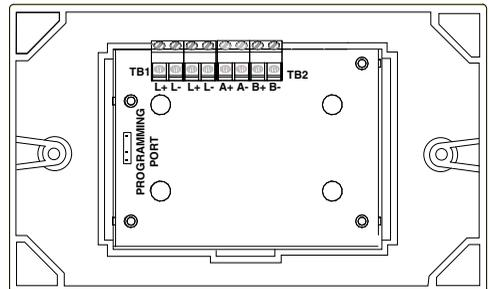
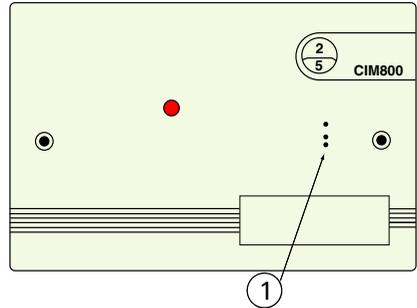

Fig. 4: CIM800 Fitted to Cover
Fig. 6: CIM800 Contact Input Module Facia Plate
- Connect wiring to the monitored contact. For CIM800 typical wiring configurations (see Figures 6 to 11).
The CIM800 has a default factory set address of 255, this must be set to the loop address of the device using the 801AP MX Service Tool. The CIM800 may be programmed with the address prior to being installed by using the internal programming port (see Fig. 4) or after being installed by using the programming port on the front cover (see Fig. 6).